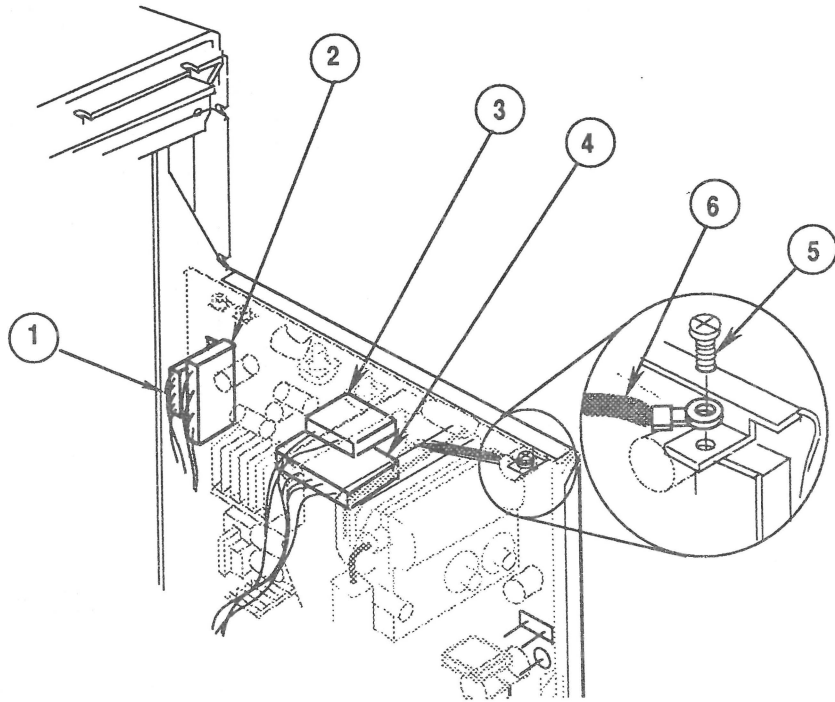

FIGURE 39
- 8-wire connector labeled **H** (Figure 39, #1)
- 5-wire connector labeled **D** (Figure 39, #2)
- 2-wire, 3-pin connector labeled **F** (Figure 39, #3)
- 4-wire connector labeled **M** (Figure 39, #4)
10. Remove the screw (Figure 39, #5) that secures the black ground cable (Figure 39, #6) to the top of the chassis.